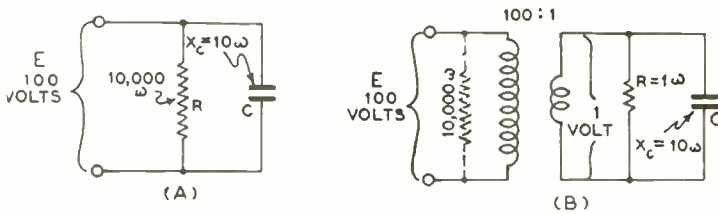

FIG. 7
Consider the circuit shown at (A) of Fig. 7. A high-frequency voltage, E , of 100 volts is impressed across a resistance, R , of 10,000 ohms and a capacity, C , whose reactance at the impressed frequency is 10 ohms. The current through R is simply $100/10,000 = 0.01$ ampere, and that through the condenser is $100/10$ equals 10 amperes. It is clear, then, that under these conditions the impedance of the condenser is so *low* compared to that of the resistance (this could also be an inductance) it is connected across, that it takes nearly all of the current that flows from the source of voltage.
Now suppose that the source voltage be stepped *down* by a transformer so that the voltage applied to the circuit is now only 1 volt (as shown at (B) of Fig. 7); the transformer ratio required to reduce this voltage is 100-to-1 (step down). But the impedance is